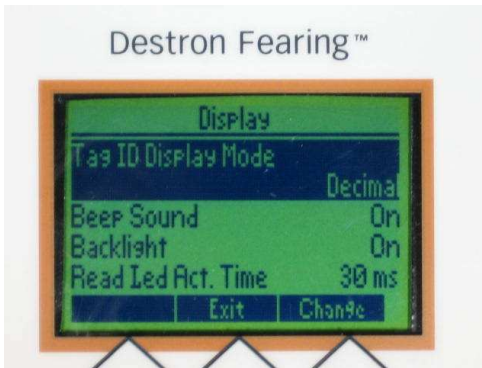

FIG. 97: Display Screen
1. Press the UP/DOWN Arrow Keys to highlight the "Tag ID Display Mode". See Fig. 97.
2. Press the CHANGE Key and the "Tag ID Display Mode" Change Value Screen will appear. See Figs. 97 and 98.